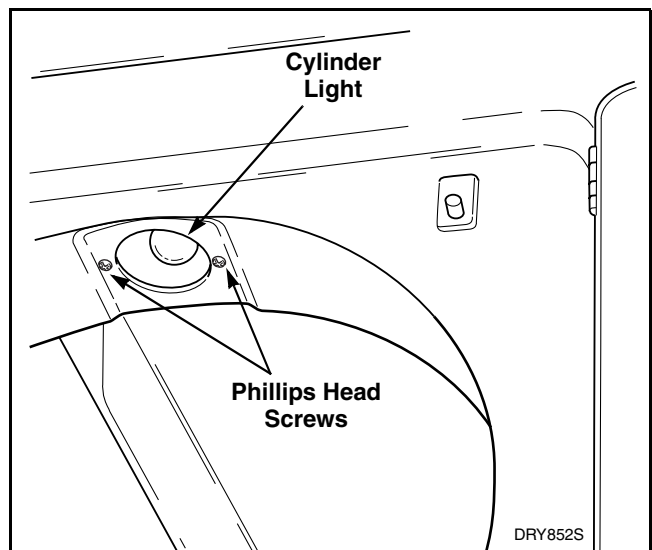

Figure 14
- a. Open loading door and remove bulb through top opening in the front bulkhead by pushing up and turning bulb to the left. Refer to *Figure 14*.
- c. Remove two Phillips head screws holding receptacle to front bulkhead. Refer to *Figure 14*.